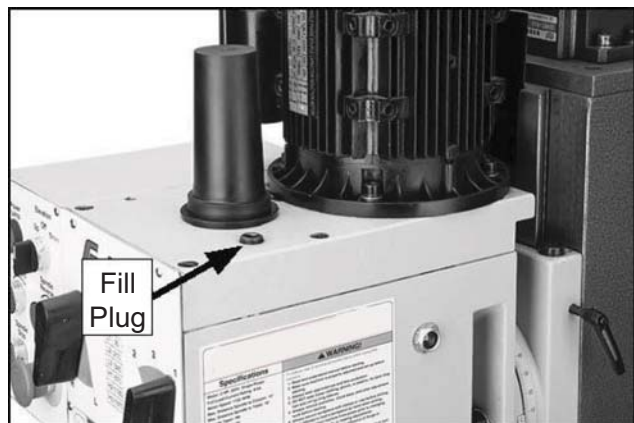

Figure 26. Headstock oil fill plug.
3. Remove the fill plug (see **Figure 26**).